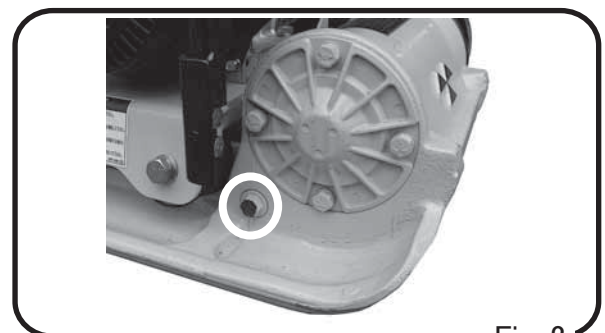

Fig. 2
- 6 Set the machine on a level surface, then remove the oil gauge of the vibrator. Check the oil gauge to see if the oil is at the specified level. Use engine oil SAE10W-30 as lubrication oil. Recommended oil quantity for MVC-40G/50G is 300cc. Remove the oil plug in Vibrator Assembly and check the oil level. Make sure the oil quantity is set at level of plug hole for checking. Every month or every 200 hours of operation, replace the oil.(Fig 2)